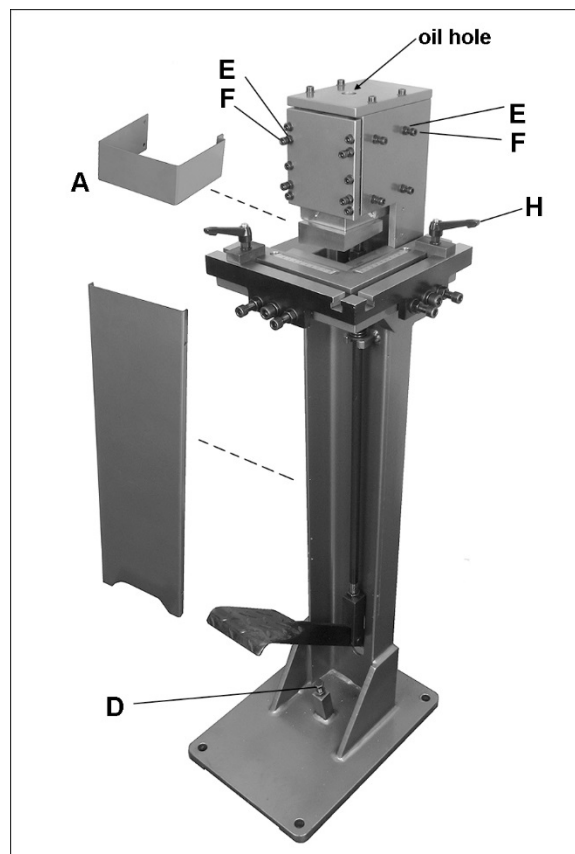

Figure 6-1 (shown with guards removed; all guards must be installed before operating)
4. Insert SAE 20W oil into hole atop cutting head (see Figure 6-1).
See Figures 6-1 and 6-2 (shown with table mounted on right side of cutting head).
1. Remove blade guard (A, Figure 6-1).
9. Reinstall blade guard (A, Figure 6-1).
Should future adjustment be needed, loosen hex nut and turn stop bolt (D, Figure 6-1) as needed. Retighten hex nut against block to secure setting.
Normal wear on the ram may cause need for future adjustment. Loosen any of the eight nuts (E) and turn screws (F, Figure 6-1) at front and side as needed to modify drag on ram block. The ram should slide smoothly up and down with just enough drag to prevent shifting or free falling.
To adjust T-stop handles (H, Figure 6-1) to more convenient position: pull up on handle and rotate, then release, making sure handle settles back onto pin.